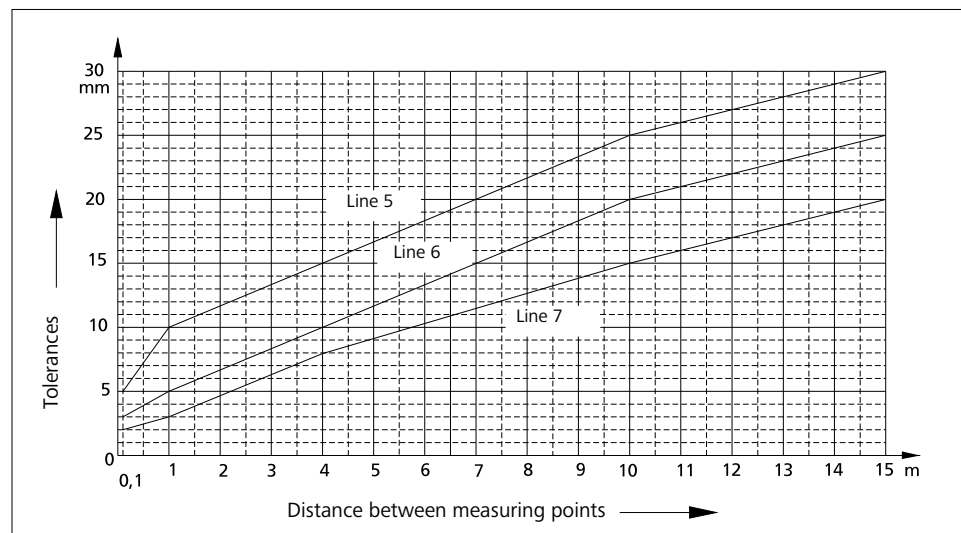

Fig. 11.2
* Intermediate values can be found in Fig. 11.2. Round up values found to full mm.